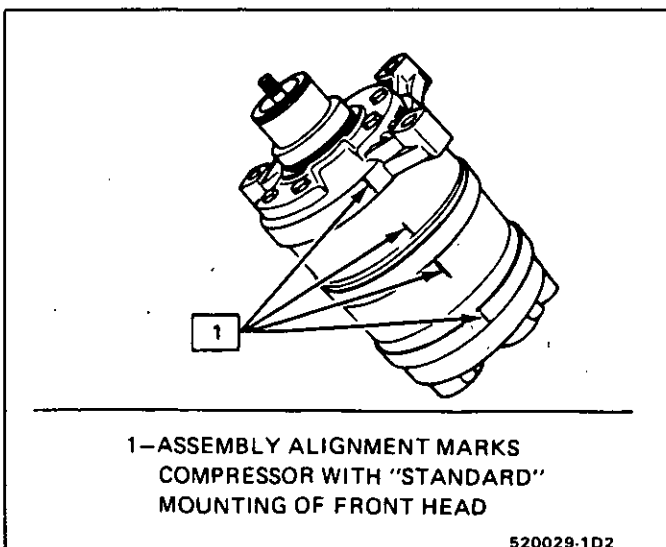

Fig. 28 Compressor Cylinders and Heads Alignment
4. Install the new seal retainer ring with its flat side against the seal, using snap-ring pliers J-5403 (Fig. 28). Use the sleeve from seal remover-installer J-9393-A to press in on the seal retainer ring so that it snaps into its groove.
3. Mark the location and note the alignment of the rear head, compressor cylinder and front head. This is important for reassembly. Depending on application mounting, the front head may be rotated 120° clockwise or 120° counterclockwise from "Standard" position (Fig. 28).
4. Remove the six (6) compressor through bolts and gaskets. Discard the gaskets.
4. Mark the location and note the alignment of the front head to the alignment marks on the cylinder. This is important for reassembly. Depending on application mounting, the front head may be rotated 120° clockwise or 120° counterclockwise from the "standard" position (Fig. 28).
5. Remove the six (6) compressor through bolts and gaskets. Discard the gaskets.